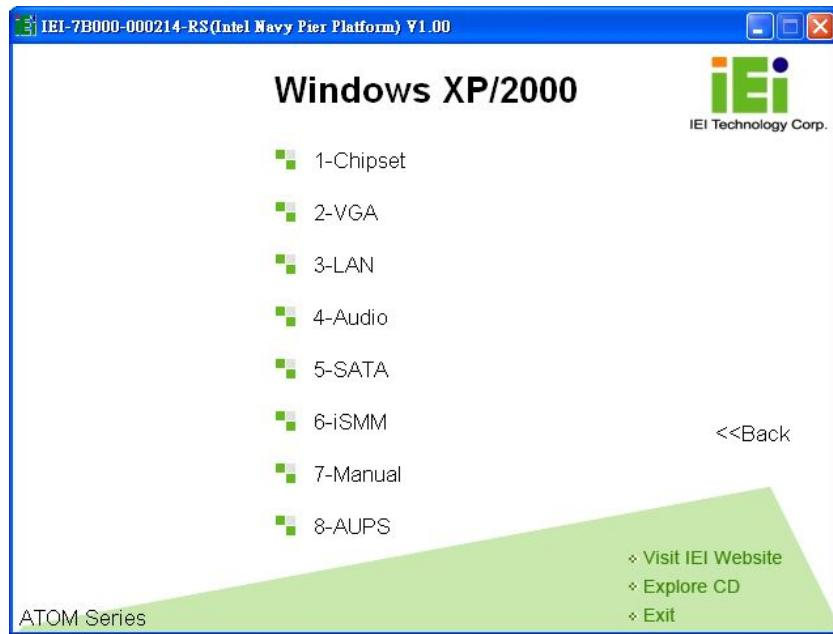

Figure 6-2: Drivers
**Step 4:** The list of drivers in **Figure 6-2** appears.
**Step 1:** Access the driver list shown in **Figure 6-2**. (See **Section 6.2**)